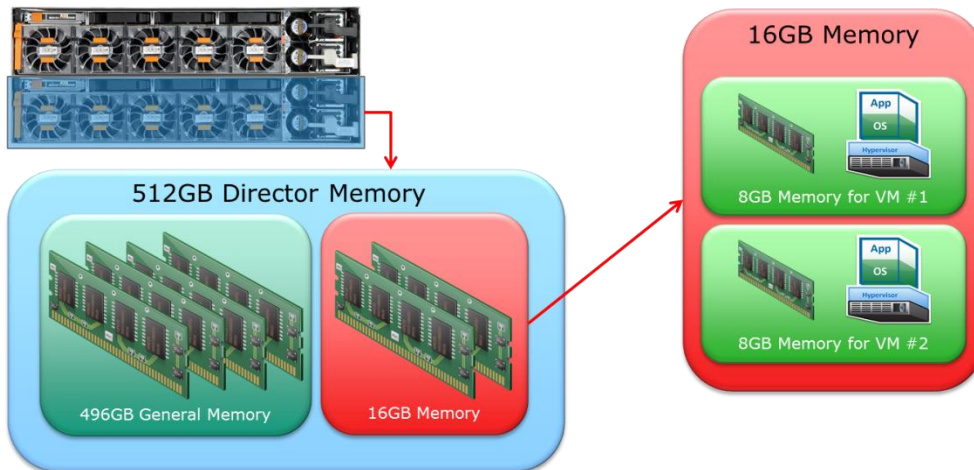

Figure 3. HYPERMAX OS 5977 Hypervisor Memory Allocation
Memory is allocated to the hypervisor from the director cache during the initial setup as shown in Figure 3. This memory is then allocated to each Virtual Machine (VM) on that director for the purpose of embedded applications. The amount of memory allocated to a VM is dependent on the type of application, for example Control Station or Data Mover.